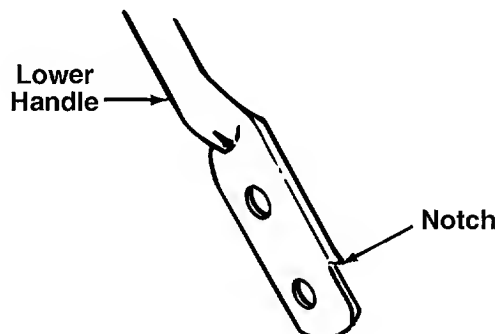

FIGURE 6.
4. Turn the lower handle around so the notches on the bottom of the lower handle are facing forward as shown in figure 6. Reassemble, placing the bottom holes in the handle over the weld pins in the handle mounting bracket.